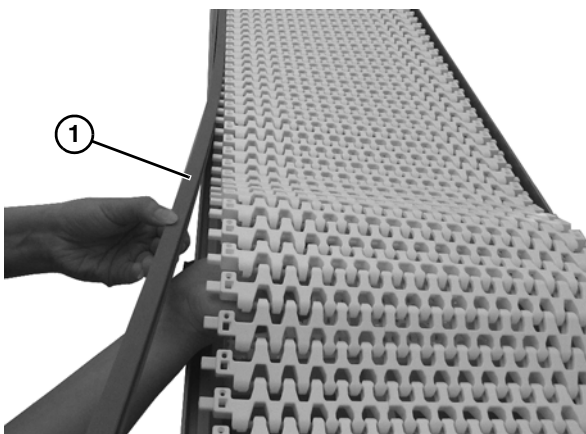

Figure 17
11. Lift belt off of frame and insert each edge strip (**Figure 17, item 1**) into side tabs of belt. Set belt and edge strips back into frame.